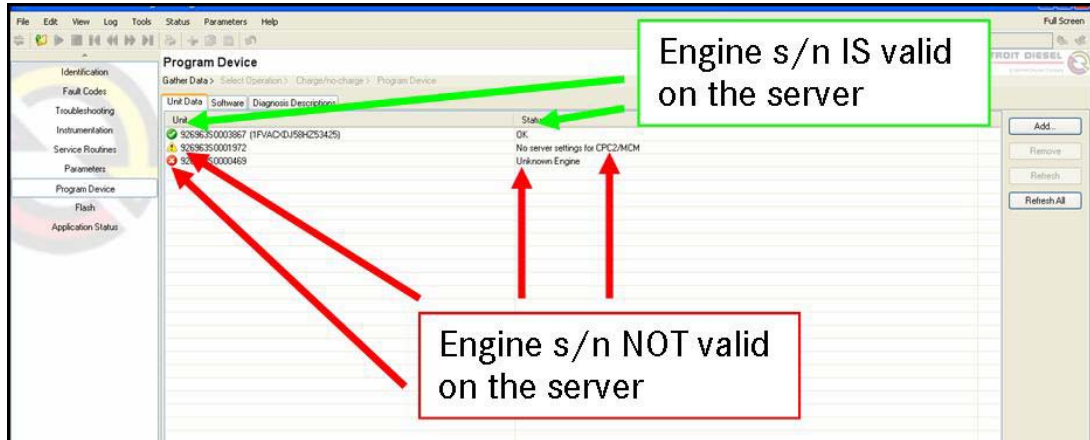

Figure 5
- e. If the engine serial number is valid on the server, you will see a green check mark next to the serial number. If you see a yellow question mark or red x mark, then the serial number is not properly loaded on the server and you must call the Detroit Diesel Customer Support Center at 313-592-5800. See Figure 5.